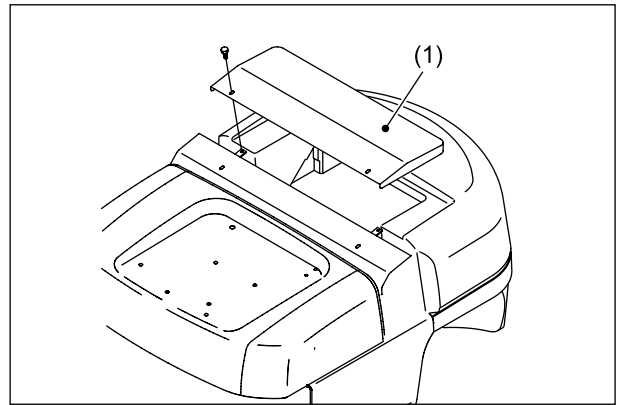

Fig. 2.61
- ⑦ Tighten the drain plug securely. Add the same amount of coolant as was drained during removal.
- ⑧ Install the counterweight. (See “2.4 COUNTERWEIGHT.”)
- ⑨ Install the radiator cover. (See Fig. 2.61.)